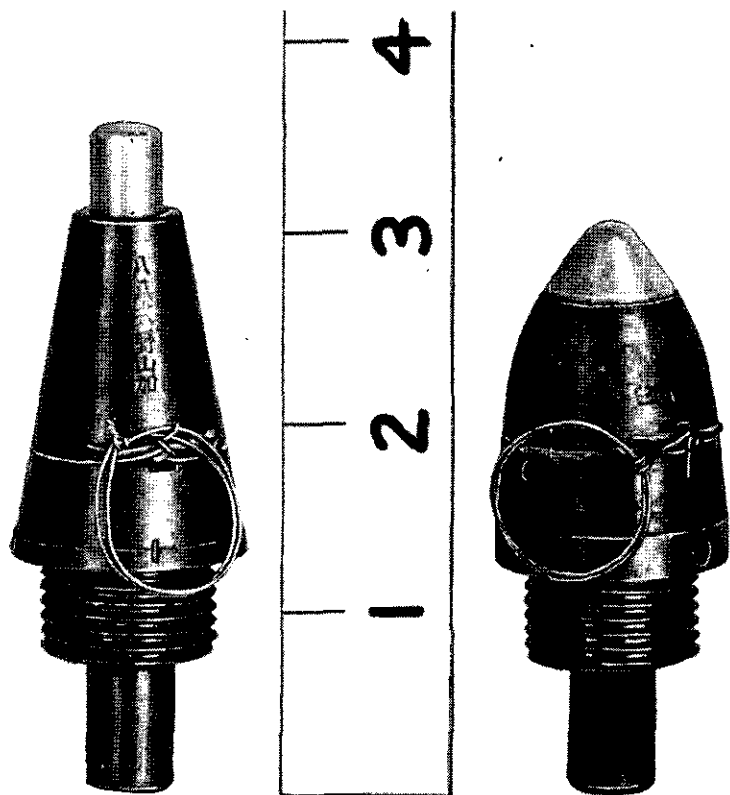

Figure 149.—Fuzes for 70- and 75-mm shells: instantaneous type (left) and delayed-action type (right).
Instantaneous or delay fuzes are used. Both are designated Model 88 and are used also in the ammunition for the Model 41 (1908) 75-mm mountain gun. (See par. 38e (4), p. 227, and fig. 149, p. 228.)
(4) *Fuzes*.—The fuzes used are the Model 88 instantaneous and Model 88 delayed-action (estimated delay, 0.05 second) (fig. 149). These same fuzes are used in the ammunition for the Model 92 (1932) 70-mm infantry howitzer (battalion gun) (par. 37e,